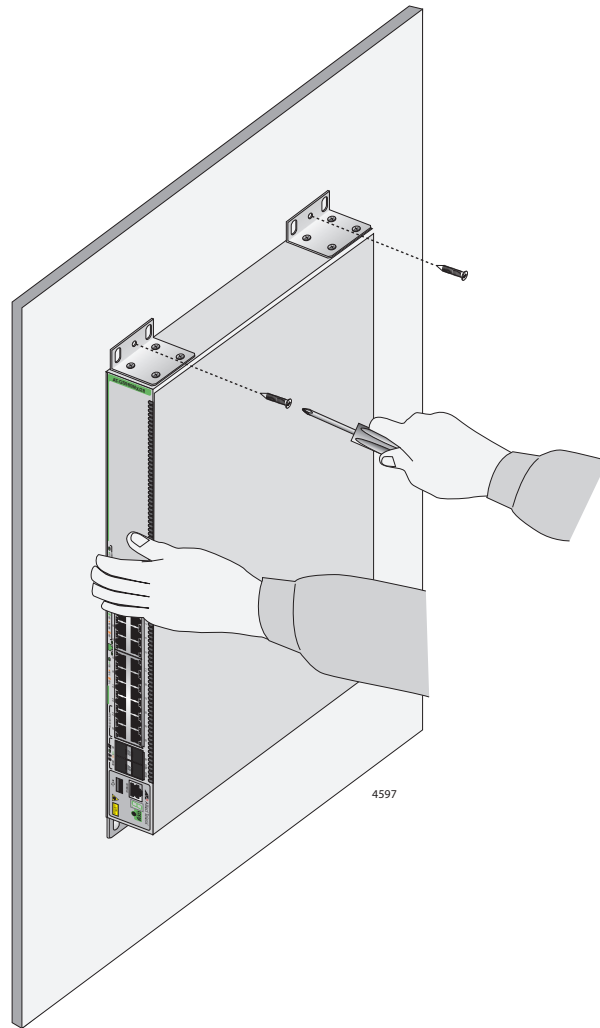

Figure 63. Installing the Switch on a Concrete Wall
8. Have another person hold the switch at the selected wall location while you secure it to the wall with the M4x32mm screws provided. Refer to Figure 63.